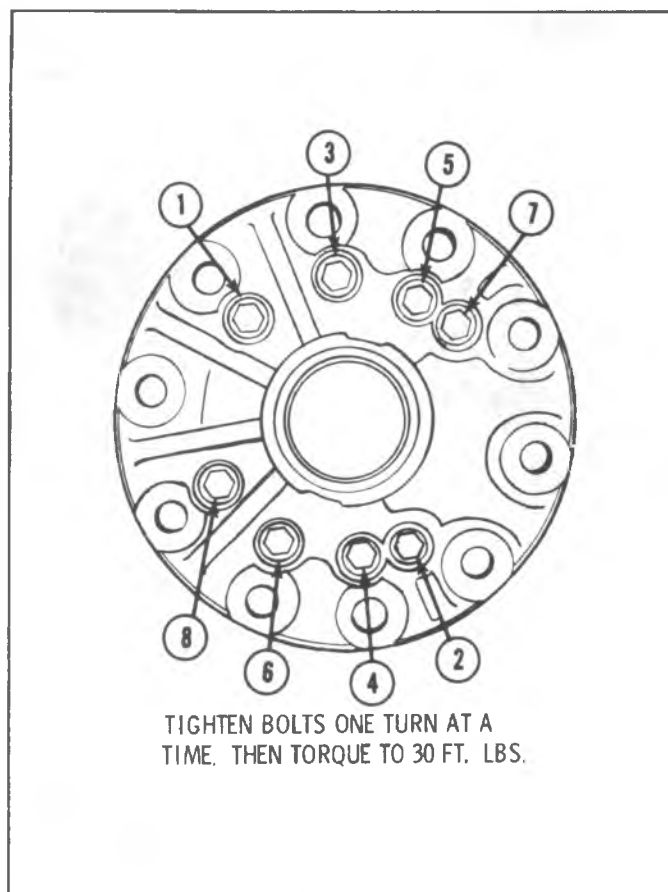

Fig. 4B6-20--Bolt Torque Sequence
3. Insert five springs into spring block that is already installed into case, then place second spring block over springs (Fig. 4B6-18).